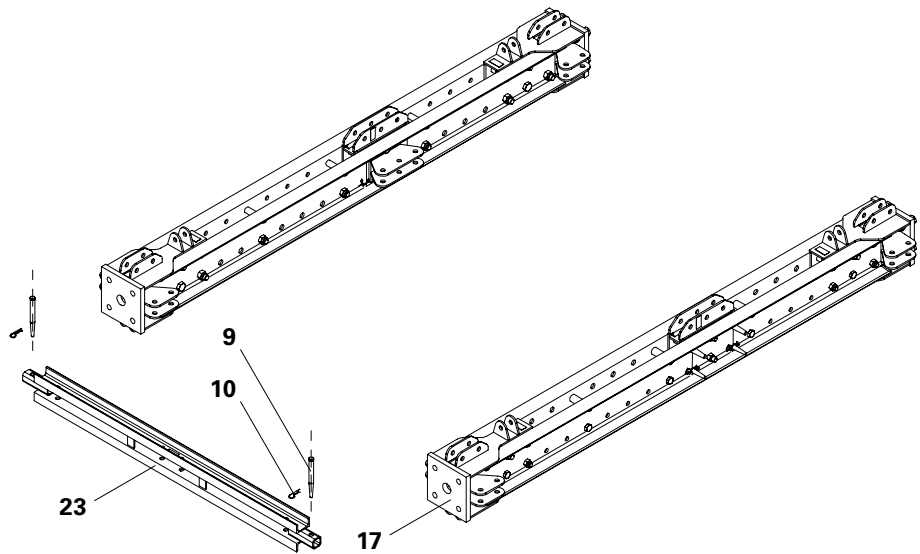

Fig. B3.01a
1. Insert the Horizontal Ledger VST 200 (23) into the Prop Base VST (17).
2. Connect the Horizontal Ledger VST 200 (23) with 1x Fitting Pin \varnothing 21 mm (9) on both sides respectively.
3. Secure fitting pins with cotter pins 4/1 (10). (Fig. B3.01a)